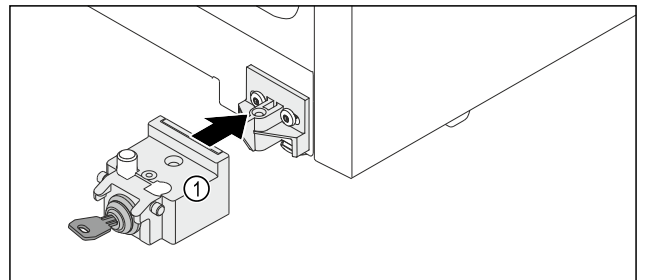

Fig. 18
- ▶ Fit the locking device Fig. 18 (1).